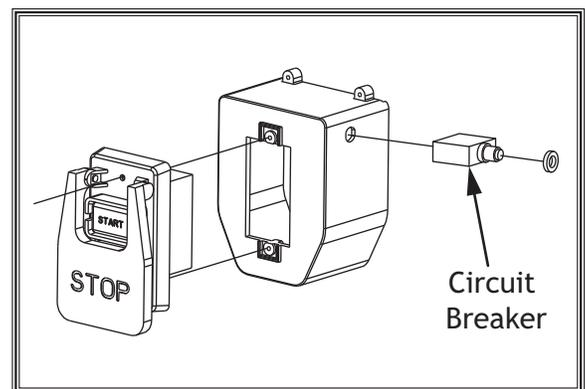

Figure 9. Location of circuit breaker.
7. Replace pre-installed 10-amp circuit breaker (see **Figure 9**) with a 20-amp circuit breaker (part #X18511224X), then re-install START/STOP switch.